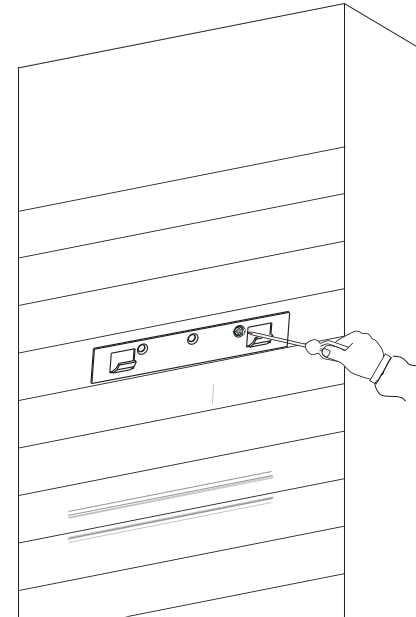

Fig.6
- Install the wall bracket with screws to the wall as marked (Fig.6).